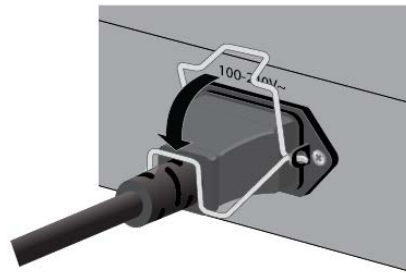

Figure 56. Lowering the Power Cord Retaining Clip
3. For the GS950 PS V2 Series, lower the power cord retaining clip to secure the cord to the switch. Refer to Figure 56.